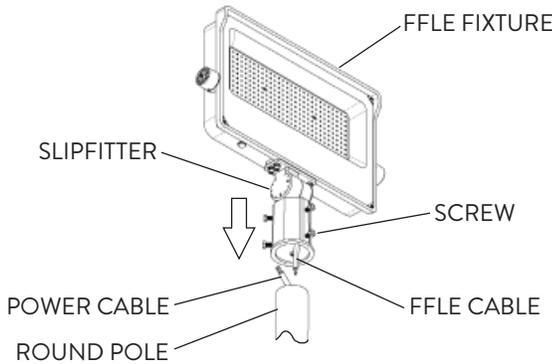

FIG. 11
- 2 The Slipfitter Mount can be mounted on a Round Pole (Ø2 3/8") (Fig. 11). Run the FFLE Cable from the FFLE fixture and the Slipfitter Mount to the Pole and follow the Wiring Diagram provided to properly install the light fixture to the Power Supply Cable. All wiring must be installed by a certified electrician and must be compliant to NEC standards. Tighten the Slipfitter Screws (4) to secure the FFLE fixture to the Round Pole at the desired orientation.